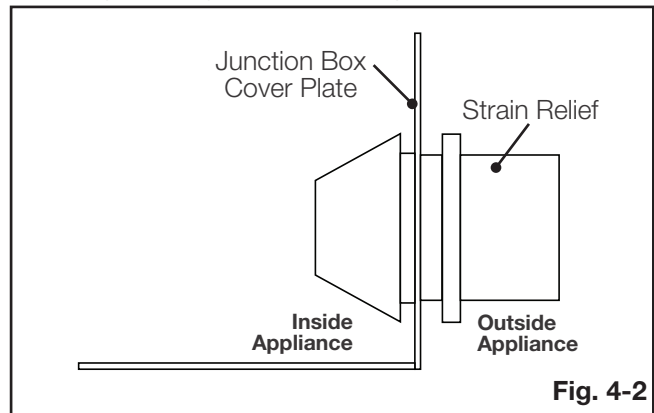

Fig. 4-2
- Install the strain relief to the junction box cover plate (located in hardware bag) (**Fig. 4-2**).